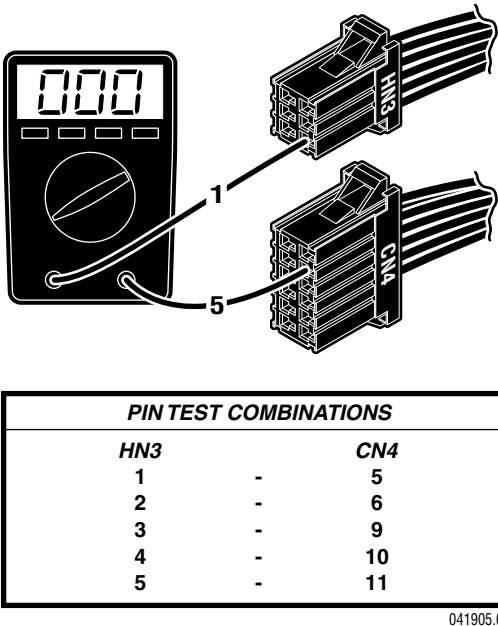

Figure 5-16. CN4 and HN3
2. Using an ohmmeter, test for continuity between pins of CN4, and HN3. See figure 5-16.